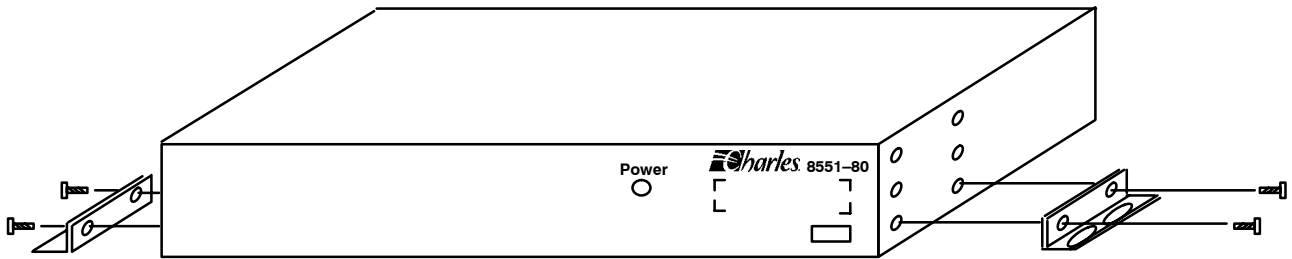

Figure 3. Power Supply with Wall Mounting Bracket
1.	Remove and rotate the bracket 90 degrees so that the flat of the bracket is toward the bottom of the shelf (see Figure 3).